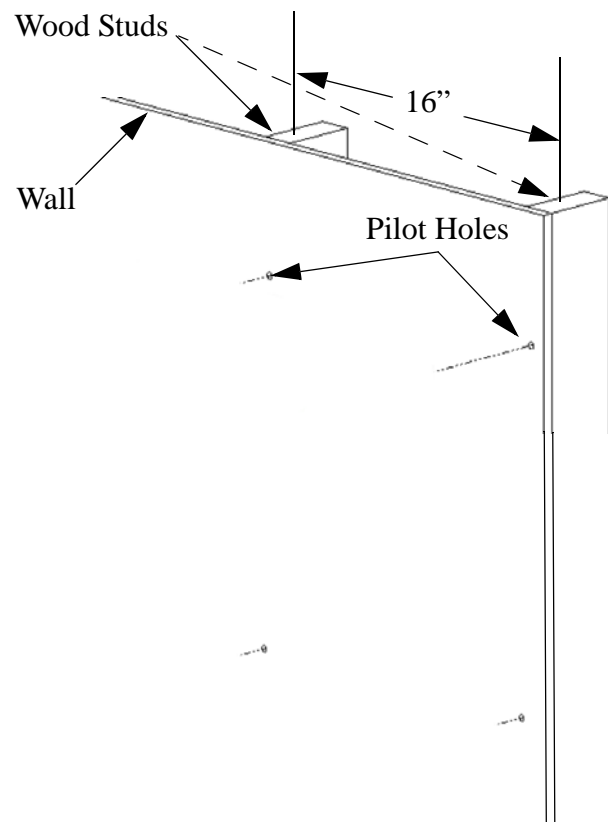

Figure 1. Two Wood Studs 16" Apart On Center
6. Drill two pilot holes where the mounting holes were marked for anchoring the top bracket on the PWR. See Figure 1.